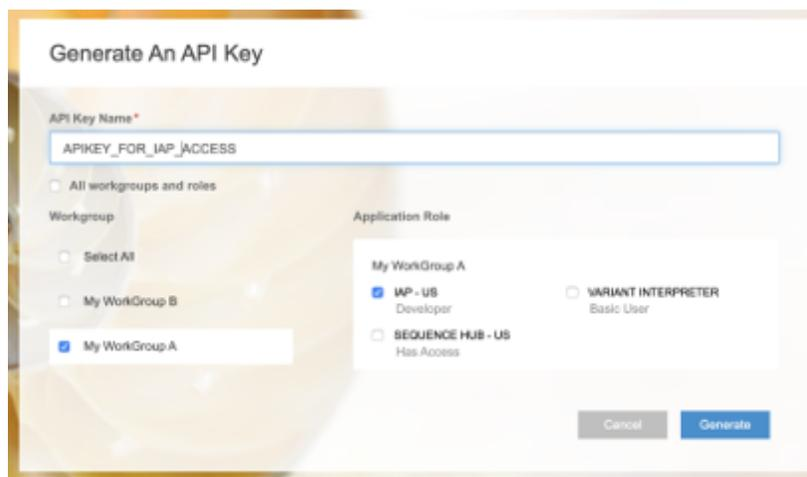

Figure 84: Generate an API Key dialogue
- Click Generate to open the Generate an API Key dialogue (Figure 84) .